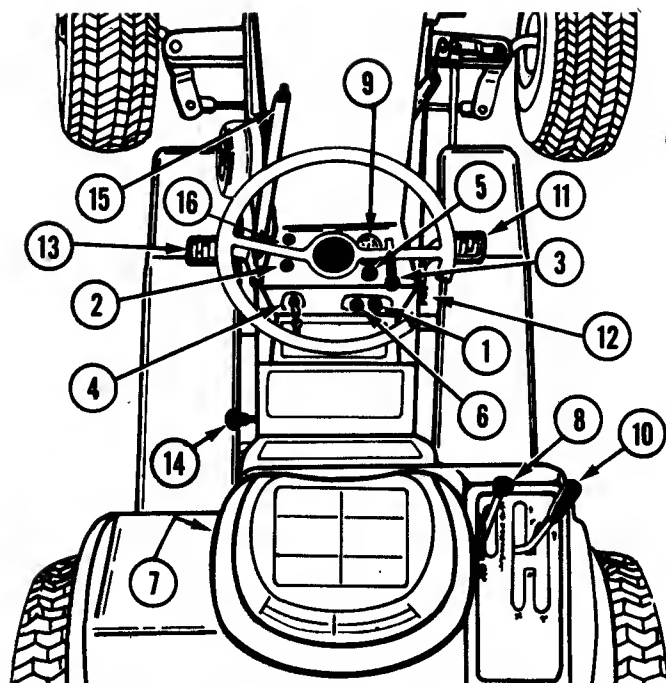
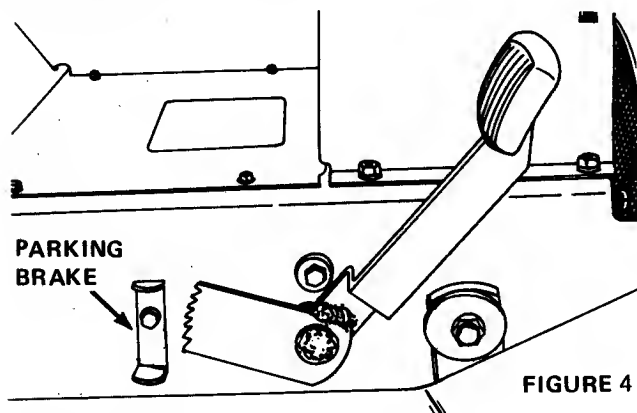

FIGURE 1
FIGURE 4
- 1 **Implement Power Control Switch** (Figure 1). Pull the switch out (ON) to engage the electro-magnetic clutch to drive the mower and front mounted attachments.
- 2 **Implement Power Indicator Light** (Figure 1). This light glows red when the implement power control switch ① is pulled out to indicate that the mower or front mounted attachment is engaged.
- 3 **Throttle Lever** (Figure 1). Raise the lever to increase engine speed. Lower the lever to decrease engine speed.
- 4 **Ignition Switch** (Figure 1). Turn the key fully clockwise to start the engine and release when the engine starts. Turn the key counterclockwise to stop the engine.
- 5 **Choke Control** (Figure 1). Pull choke control out when attempting to start a cold engine or when starting during cold weather. When engine starts, gradually push choke in. Normally, it is not necessary to use the choke when starting a warm engine.
- 6 **Light Switch** (Figure 1). Pull the switch out to turn on the front and rear lights. The ignition key must be turned on before the lights work.
- 7 **Seat Safety Interlock Switch** (Figure 1) This switch, located in the seat, is closed by the operators weight. If the operator leaves the seat for any reason while the PTO is "ON" or the shift lever is not in "NEUTRAL" the PTO clutch and engine ignition are both shut off. When the PTO is "OFF" and the shift lever is in "NEUTRAL" leaving the seat will not cause the engine to stop.
- 8 **Hydraulic Lift** (Figure 1) Model S-14G only). This lever controls the hydraulic system used to raise and lower attachments. The lever has four positions — UP, HOLD, DOWN and FLOAT. The normal out-of-use position is the "HOLD" position, whereby the attachment will not raise or lower. When it is desired to raise the implement, move the lever to the "UP" position, to lower the attachment move the lever to the "DOWN" position. Place the lever in the "FLOAT" position to allow the attachments to follow the ground contours.
- 9 **Ammeter** (Figure 1). The ammeter indicates the rate of battery charge or discharge. The indicator should register on the (+) side of the dial when the engine is running at any speed above a slow idle. When the engine is idling or with a fully charged battery, the ammeter may not show charge. Should the ammeter register on the (—) side of the dial for an extended period of time with the engine running, it indicates the alternator is not charging the battery. Check the battery connections or contact your dealer.
- 10 **Gear Shift Lever** (Figure 1) This lever selects any of four forward speeds or reverse.
- 11 **Brake Pedal** (Figure 1) When this pedal is depressed the friction brakes will be applied to stop the tractor, **DEPRESS THE CLUTCH PEDAL ⑬ BEFORE ATTEMPTING TO STOP THE TRACTOR WITH THE WHEEL BRAKES.**
- 12 **Parking Brake** (Figure 1) The parking brake is a latch that locks the brake pedal. To apply the parking brake, depress the brake pedal, flip up the parking brake latch. ⑫ To disengage the parking brake, depress the brake pedal and push down the latch.
- 13 **Clutch Pedal** (Figure 1) Depressing this pedal removes the idler pulley from the drive belt and disconnects the engine from the drive train. Depress the clutch to shift gears or before attempting to stop.
- 15 **Manual Lift Lever** (Figure 1) (Model S-10G only). To raise attachment, press the thumb release, pull lever rearward and lock in the raised position. To lower attachment, press the thumb release and move lever forward. This lever is spring loaded to the rear position when the manual lift assist springs are engaged.
- 16 **Implement Reset Button** - Press to restart PTO in the event the operator leaves the seat momentarily. Under these conditions the PTO and engine ignition will be shut off. If the operator sits down before the engine stops revolving, the engine will restart, but the PTO will not start until the reset button ⑯ is pushed. If the engine stops, the normal starting procedure (Implement switch ① OFF; Shift lever ⑩ in NEUTRAL) must be followed.
- Be sure the Implement Power Control Switch (1) Figure 1, is pushed in (OFF).
- Raise throttle lever (3) Figure 1, to approximately 1/3 fast position.
- Pull choke control (5) Figure 1, all the way out if engine is cold. If engine is warm, little or no choke may be required.
- Turn ignition key (4) Figure 1, clockwise all the way. Release key as soon as the engine starts and push choke button in. In cold weather it may be necessary to push choke in gradually until engine warms up. If engine fails to start on the first attempt, turn key to off, wait a few minutes and try again. Do not operate the starting motor continuously for more than 30 seconds at a time.
To stop the tractor, depress the clutch pedal (13) and depress the brake pedal (11). Then place the shift lever in the "Neutral" position and set the parking brake. Figure 4.
1. Move the gear shift lever (10) Figure 1, in "Neutral" position, depress the brake pedal and set the parking brake (Figure 4).
2. Disengage Implement Power Control Switch (1) Figure 1, and rear driven attachments.
4. Lower the throttle lever (3) Figure 1, and allow engine to idle for a short period before turning it off.
5. Turn the ignition key (6) Figure 1, counterclockwise to stop engine.